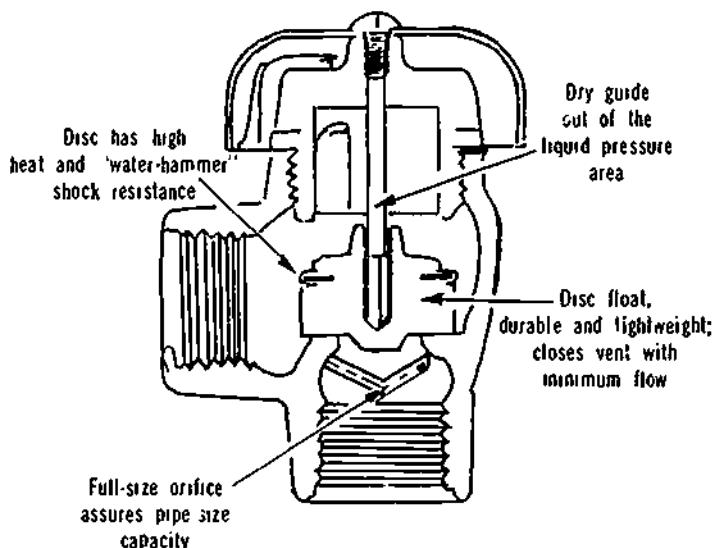

Figure 30-1. Atmospheric Type Vacuum Breaker
- Atmospheric Type (See Figure 30-1).